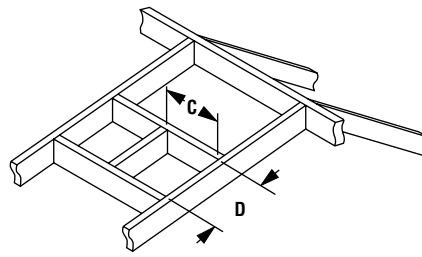

**Figure 25**
Analyze the vent routing and determine the quantities of vent sections and number of elbows required. Refer to **Vertical Vent Figures and Tables on page 14** to select the type of vertical installation desired. Vent sections are available in net lengths of 4-1/2" (114 mm), 10-1/2" (267 mm), 22-1/2" (572 mm), 34-1/2" (876 mm) and 46-1/2" (1181 mm). Refer to the **Vent Section Length Chart on page 14** for an aid in selecting length combinations. Elbows are available in 90° and 45° configurations. Refer to **Figure 25** for the SV4.5E45 and SV4.5E90 elbow dimensional specifications.
**F. Change vent direction to horizontal/inclined run** - At transition from or to a horizontal/inclined run, install the SV4.5E45 and SV4.5E90 elbows in the same manner as the straight vent sections. The elbows feature a twist section to allow them to be routed about the center axis of their initial collar section to align with the required direction of the next vent run element. **Twist elbow sections in a clockwise direction only so as to avoid the possibility of unlocking any of the previously connected vent sections.** See **Figure 25**.
Analyze the vent routing and determine the types and quantities of sections required 4-1/2" (114 mm), 10-1/2" (267 mm), 22-1/2" (572 mm), 34-1/2" (876 mm) and 46-1/2" (1181 mm) net section lengths are available. It is recommended that you plan the venting so that a joint does not occur in the ceiling or roof joists. Allow for elbows as indicated in **Figure 25 on page 16**.